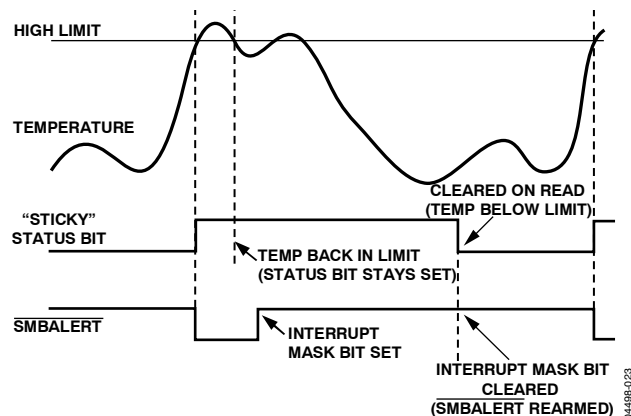

Figure 29. Effect of Masking the Interrupt Source on SMBALERT Output
- Periodically poll the status registers. If the interrupt status bit has cleared, reset the corresponding interrupt mask bit to 0. This causes the SMBALERT output and status bits to behave as shown in Figure 29.